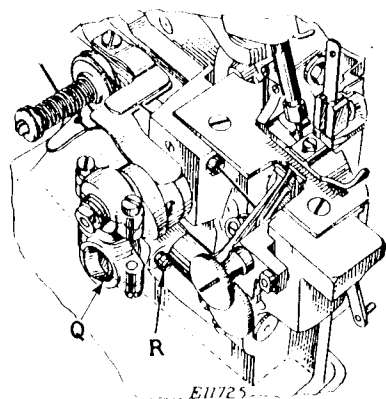

FIG. 15. TO REGULATE THE LOOPER MOTION
A variation in the amount of the looper motion can be obtained by adjusting the ball stud (Q, Fig. 15). To increase this motion, loosen the set screw (R, Fig. 15) in the looper lever and move the ball stud (Q) inwardly or toward the looper lever. To decrease the motion, move the ball stud outwardly or away from the looper lever. After the desired motion has been obtained, securely tighten the set screw.